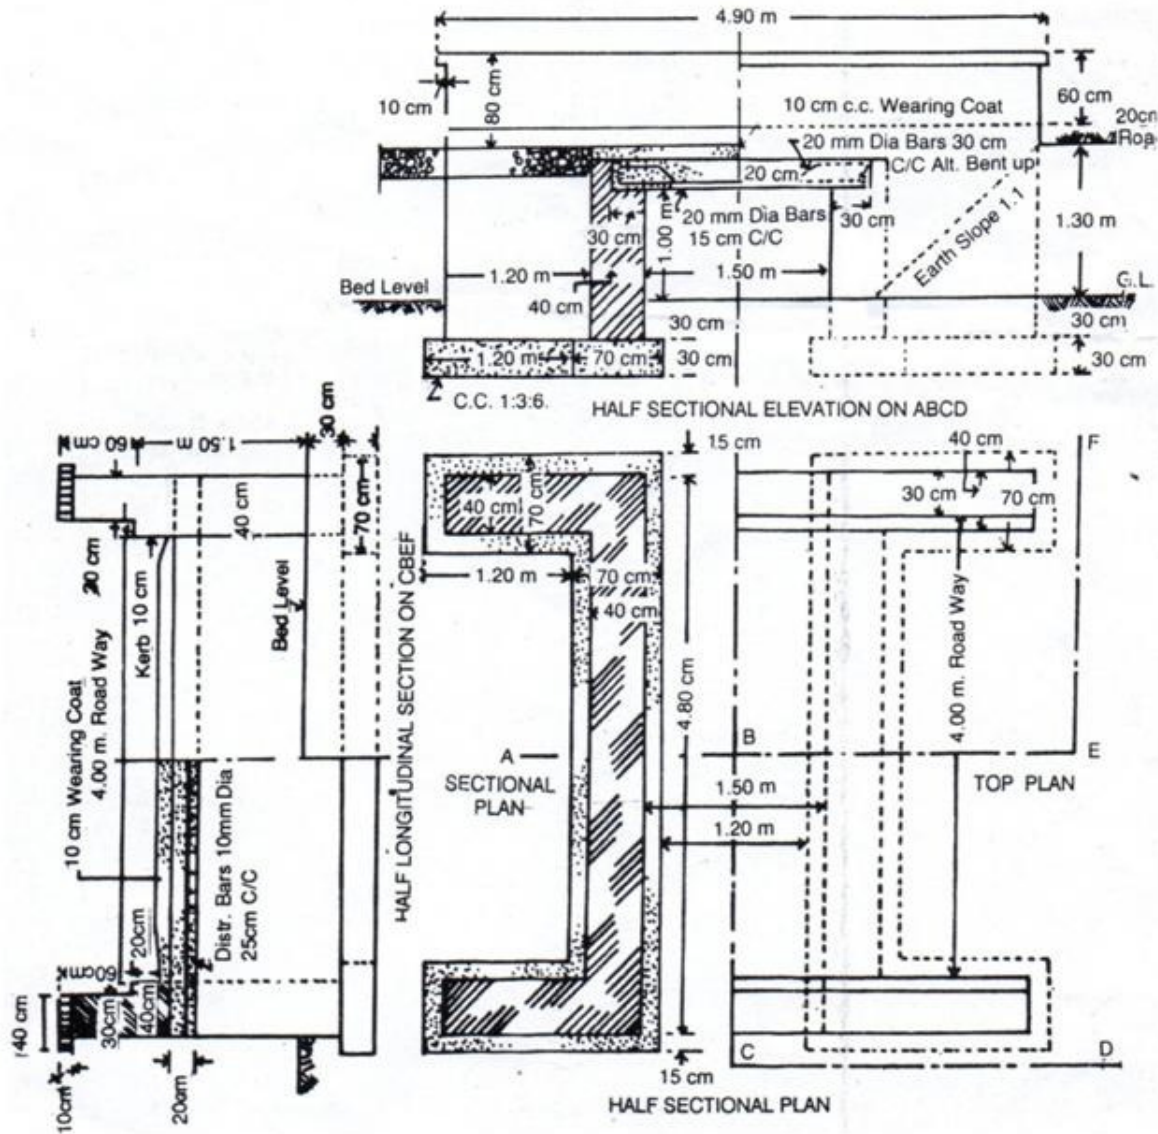

Fig 5.3
**Example 1.** — Prepare a detailed estimate of a slab culvert of 1.50 metre span and 4.00 metre roadway from the given drawing (Fig. 5.3). The general specifications are as follows :—
### Preparation of detailed estimate for R.C.C .Single span slab culvert as shown in fig. 5.3